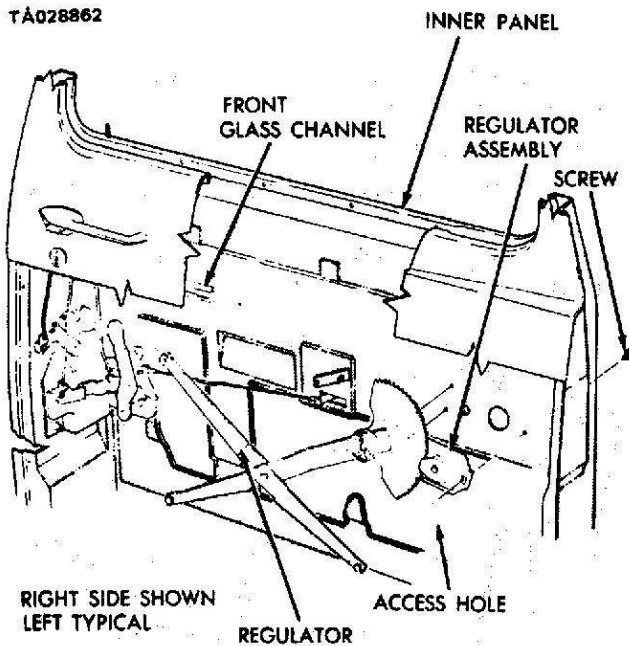

Figure 2-107. Door Window Regulator.
a. Removal. Refer to figure 2-107.
(1) Remove the remote control and regulator handles, the arm rests, and the trim panel.
(2) Carefully guide the assembly out of the access hole. Be especially careful not to bend the regulator arms when removing them from the run channels.